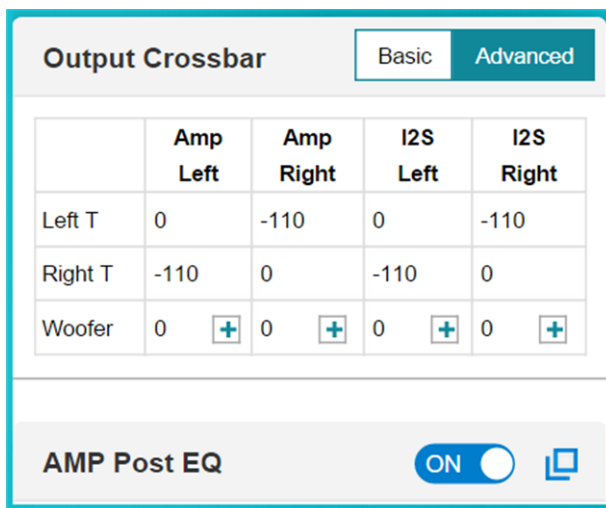

Figure 6. Output Crossbar Setting
If the application requires sufficient headroom, negative gain in certain blocks can be used to increase headroom. With proper headroom configuration, it is better for dynamic range. Usually, gain compensation can be obtained in the output cross bar as Figure 6 shows after more headroom was set in the input mixer.
- The crossbar provides the end user with a very flexible way to control what finally appears on amplifier outputs and I2S SDOUT. The *Basic Tab* provides the easiest way for configuration. Figure 6 shows the *Advanced Tab*. Use the *Advanced Tab* to adjust parameters. Note that all the parameters need to be specified in decibels (dB). In spatializer, select the *Advanced Tab* to mix the effect using different weights.